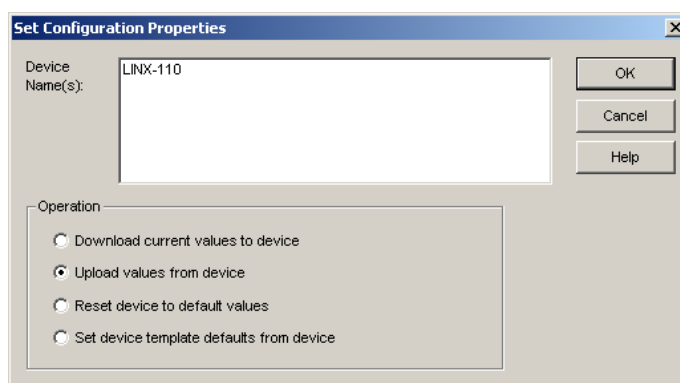

Figure 37: Set Configuration Properties in LonMaker TE.
2. This opens the dialog shown in Figure 37.